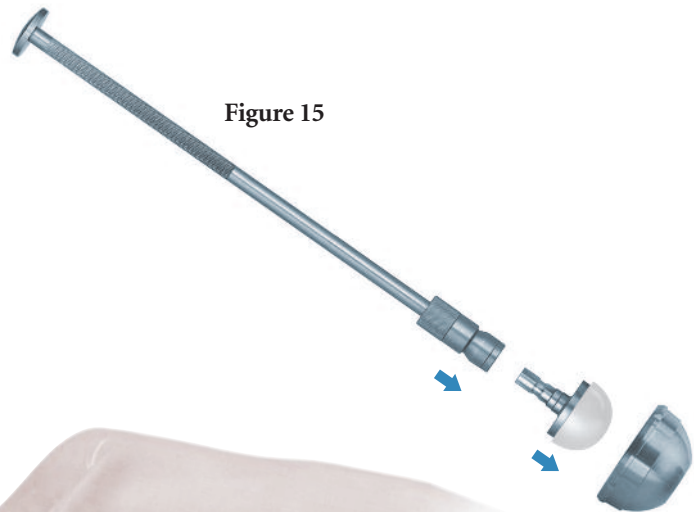

Figure 15
2. Load Silicone Insert Positioner Tip into Insert Positioner/Impactor Handle (Figure 15).